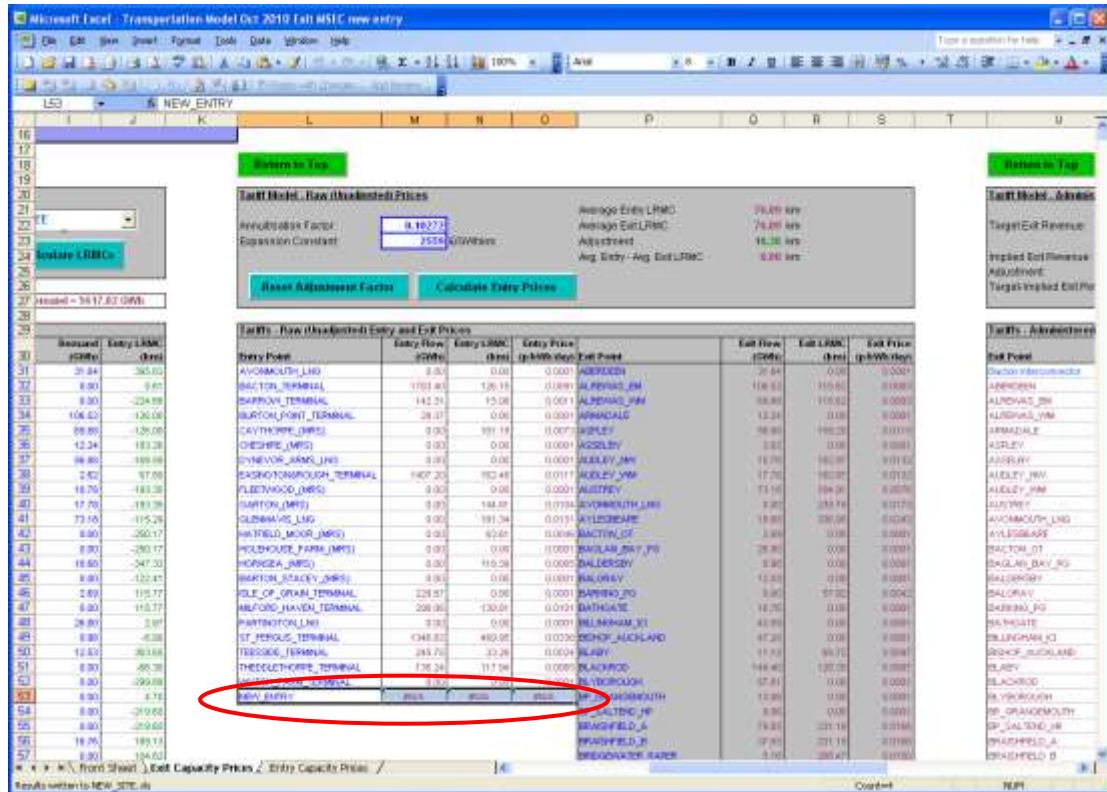

Figure 20: the updated Tariffs – Raw (Unadjusted) Entry and Exit Prices table
6. Navigate to the *Tariffs – Raw (Unadjusted) Entry and Exit Prices* table (columns L – S). You will notice that “NEW\_ENTRY” has been added to the bottom of *Entry Point* column (column L), as shown in Figure 20, and that the following formulae from the row above have been copied down to the new row entry;